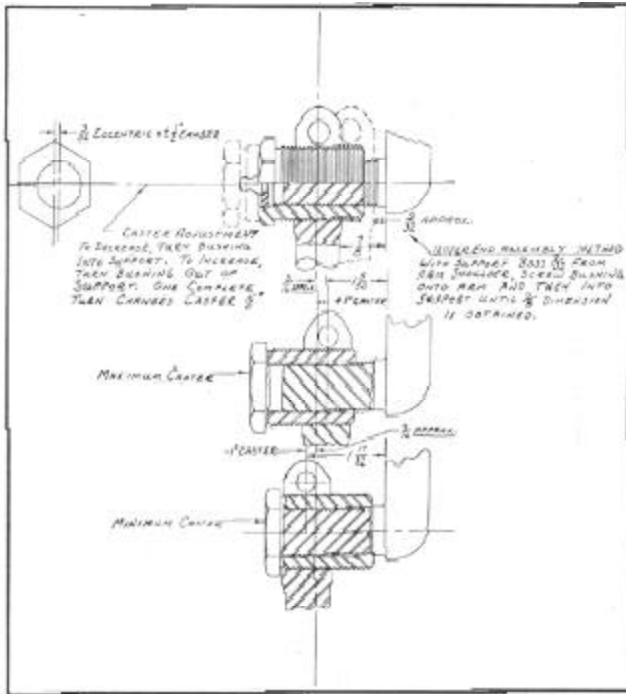

Figure 8
9. In replacing spindle support hold support on upper support arm at a distance of 9/32" measured between back face of the spindle support and the boss on the upper support arm. See Figure 8.
11. Continue threading eccentric bushing onto the upper support arm and into the spindle support until a distance of 7/8" is obtained between back face of the spindle support and the boss on the upper support arm. See Figure 8.
8. In replacing upper support arm and pivot assembly place support arm in upper end of spindle support at a distance of $9/32$ " measured between the back face of the spindle support and the boss on the support arm. See Figure 8.
10. Continue threading eccentric bushing onto the upper support arm and into the spindle support until a distance of $7/8$ " is obtained between the back face of the spindle support and the boss on the upper support arm. See Figure 8.
5. Replace bushing, hold spindle support on upper support arm at a distance of $9/32$ " measured between back face of spindle support and boss on upper support arm. See Figure 8.
7. Continue threading bushing until a distance of $7/8$ " is obtained between back face of spindle support and boss on upper support arm. See Figure 8.